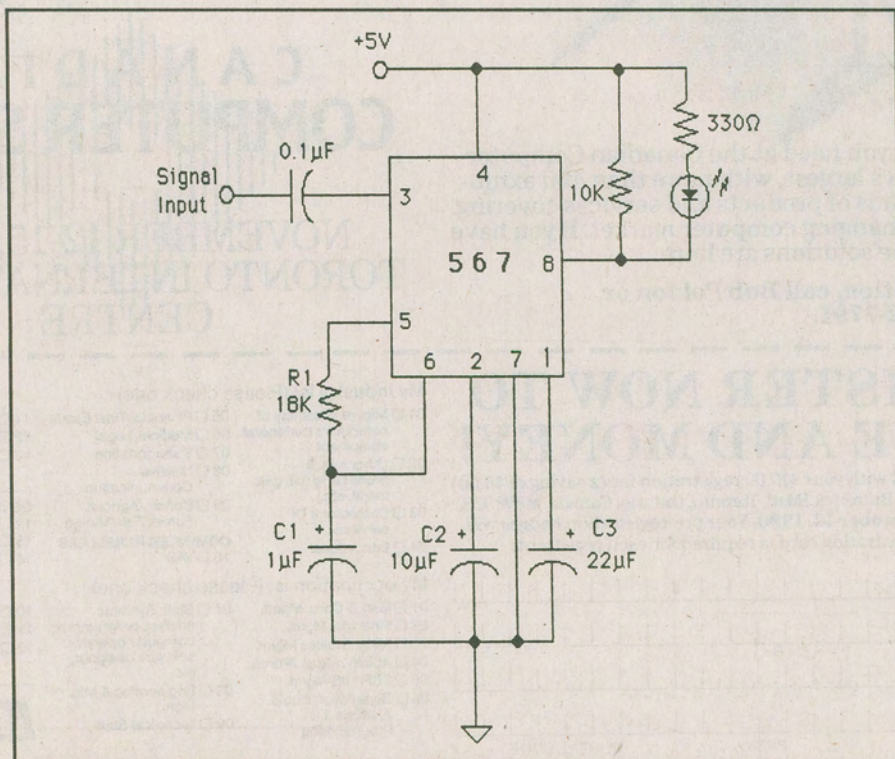

Figure 6.
1. Wire the circuit shown in the schematic diagram of Figure 6. Apply power to the circuit and adjust the frequency generator for 60Hz output signal with a 2 volt peak-to-peak signal level. The LED should not be lit at this time.